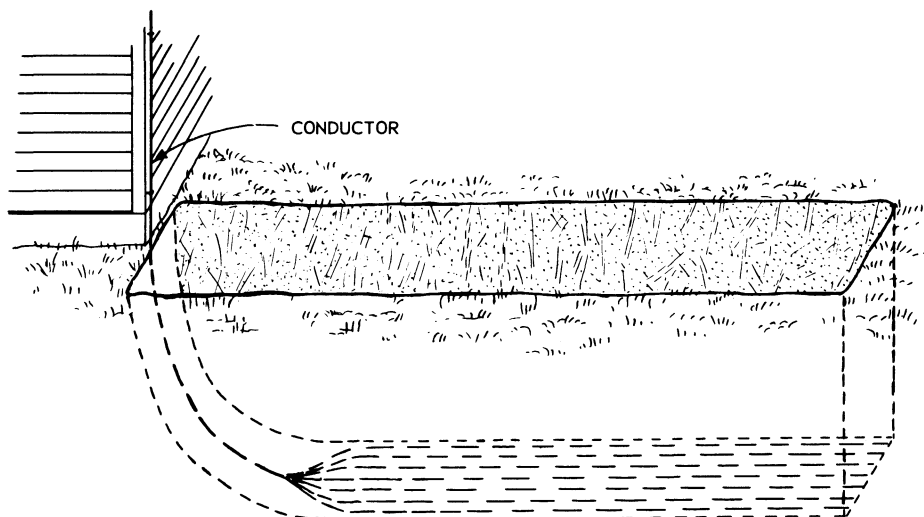

Figure 11.—Ground made by burying a stranded conductor.
- By stranding copper conductor cable and burying it in a trench (fig. 11).